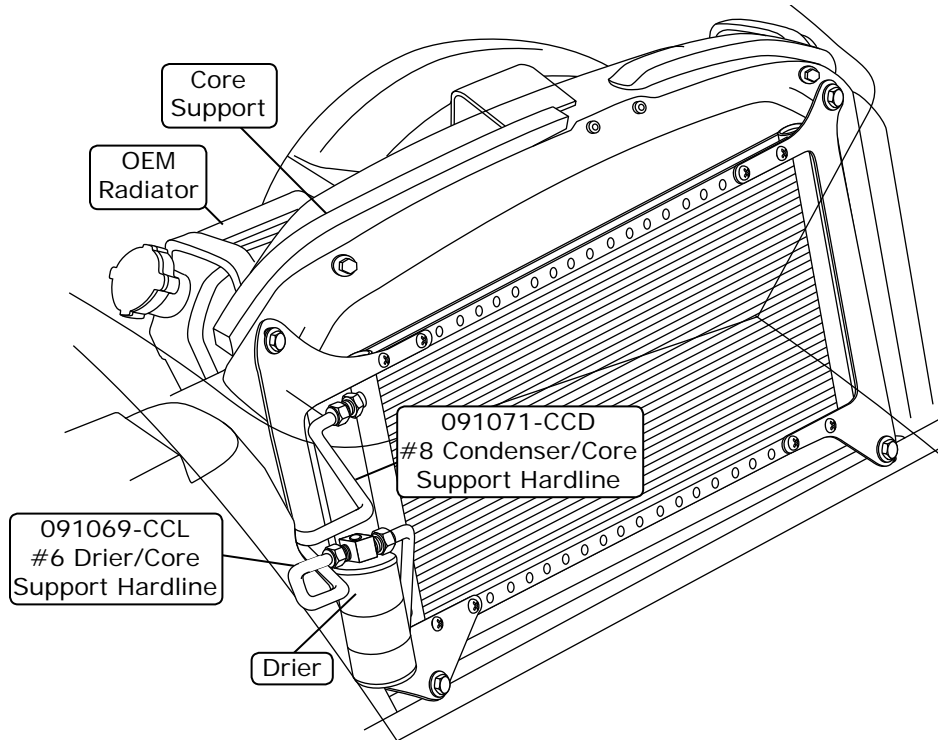

Figure 5
1. Refer to separate instructions included with the condenser kit to install the condenser. Refer to Figure 5, below, for condenser location.